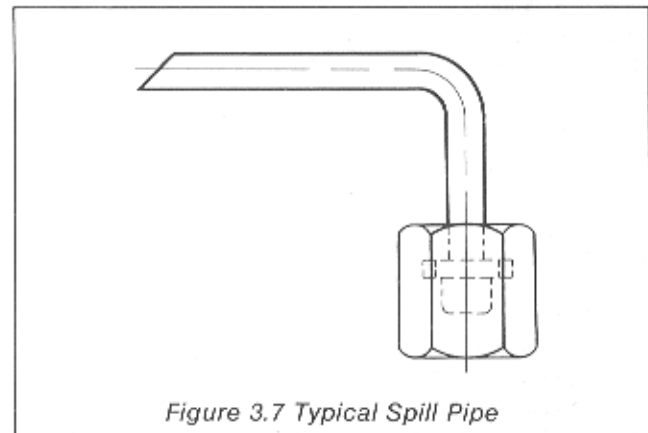

Figure 3.7 Typical Spill Pipe
- (1) Isolate the fuel supply and remove the pump-to-injector fuel pipe.
- (2) Unscrew the delivery union body (1) and remove, ensure that the 'O' ring seal (4) is also withdrawn.
- (3) Lift out the spring peg (2) (excluding early type 'B' series), and spring (3).
- (4) Carefully lift out the delivery valve (6) do not disturb the seat (7) or seal (5). Place the spring peg, spring and delivery valve in a container of clean fuel.
- (5) Locate the 'O' ring seal (4) on the lower diameter of the Bryce 'A' and 'B' series union body and ensure that the 'O' ring seal is in position on the union body of the Bryce 'E' and IESA pumps. Screw the union body into the pump.
- (6) Fit a suitable spill pipe (as shown in Figure 3.7).
- (7) Turn the engine flywheel until the engine is a quarter of a turn before TDC with the piston on compression stroke.
- (8) Connect the fuel supply and bleed the separately mounted fuel filter (if fitted). Fuel should flow from the spill pipe.